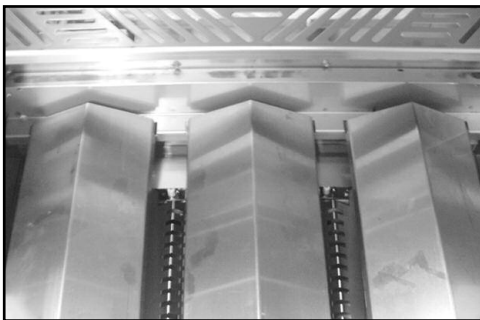

Fig. 18
1. Insert the top row of flavor grids into the cutouts with triangle ridges facing up. (See Fig. 18)